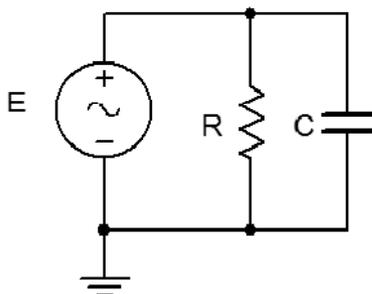

Figure 5.1
- Using Figure 5.1 with a 10 V p-p 10 kHz source, $R=1$ k ohm, and $C=10$ nF, determine the theoretical capacitive reactance and circuit impedance, and record the results in Table 5.1. Using the current divider rule, compute the resistor and capacitor currents and record them in Table 5.2.
- Build the circuit of Figure 5.1 using $R=1$ kohm, and $C=10$ nF. A common method to measure current using the oscilloscope is to place a small *current sense resistor* in line with the current of interest. If the resistor is much smaller than the surrounding reactances it will have a minimal effect on the current. Because the voltage and current of the resistor are always in phase with each other, the relative phase of the current in question must be the same as that of the sensing resistor's voltage. Each of the three circuit currents will be measured separately and with respect to the source in order to determine relative phase. To measure the total current, place a 10 ohm resistor between ground and the bottom connection of the parallel components. Set the generator to a 10k Hz sine wave and 10 Vp-p. Make sure that the *Bandwidth Limit* of the oscilloscope is engaged for both channels. This will reduce the signal noise and make for more accurate readings.